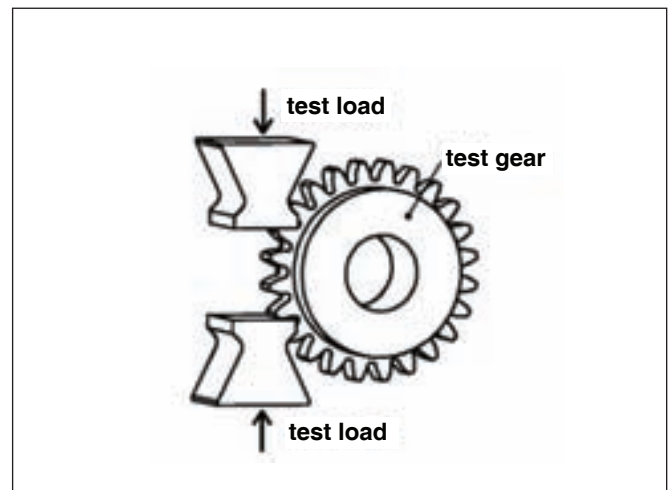

Figure 3—Testing scheme without supporting the gear blank (Ref. 11).
2. A second test scheme, more common in Europe (Refs. 11–12), in which two teeth are actually loaded at the same time, is a consequence of the involute profile properties and of the span measurement (the so-called “Wildhaber span”) in particular. In this case the gear blank can be left unsupported since the two equal and opposite applied forces are perfectly balanced (Fig. 3).